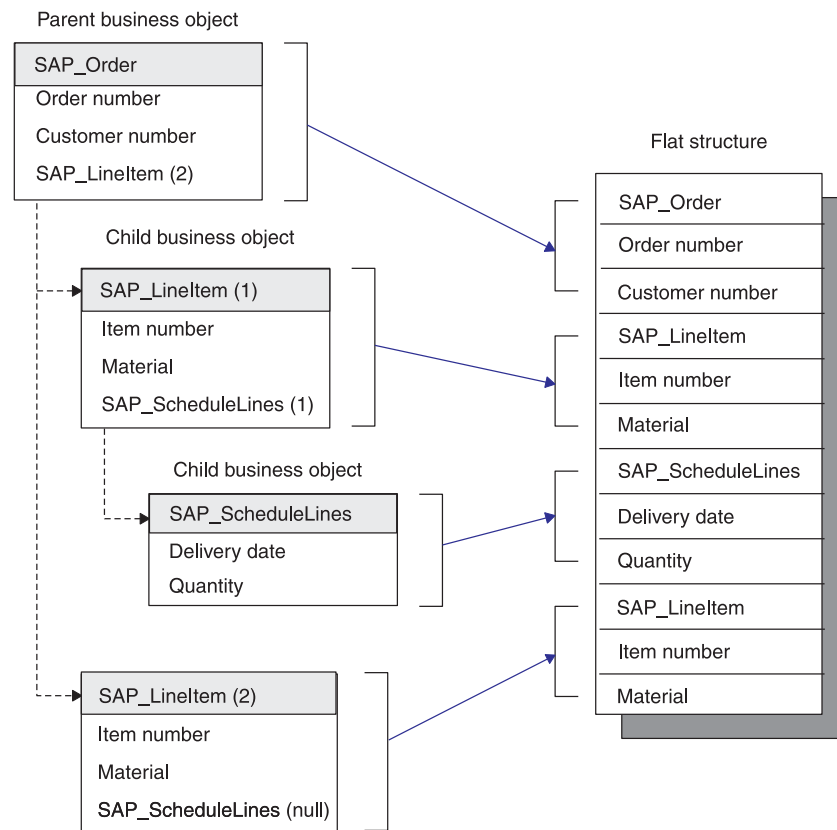

Figure 12. Conversion from a business object to a flat structure
Figure 12 illustrates the data conversion of a WebSphere business object for SAP into a flat data structure. The conversion of data always follows the rule of depth first and then breadth. In the example, the top-level parent business object, SAP\_Order, has two children, SAP\_LineItem (1) and SAP\_LineItem (2), which are considered peers. SAP\_LineItem (1) has one child business object, SAP\_ScheduleLines.